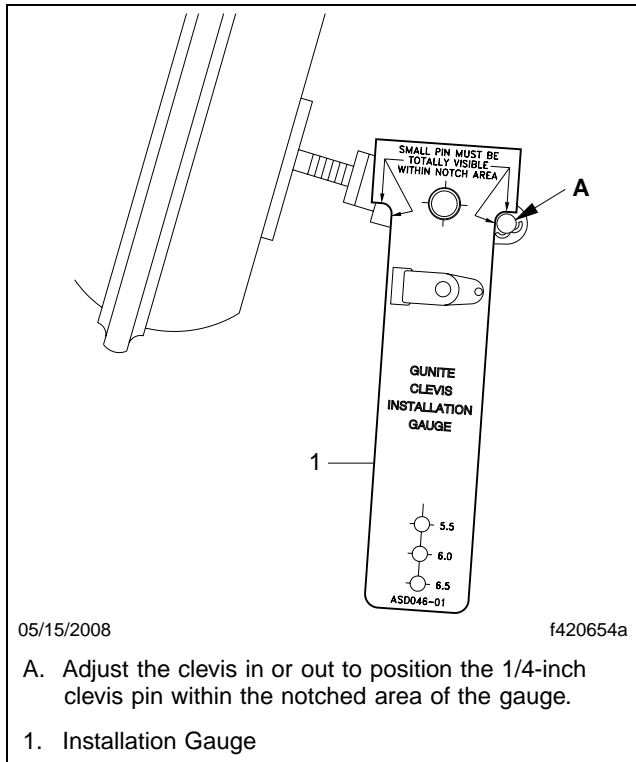

Fig. 4, Checking the Clevis Adjustment
5. If the pushrod has a threaded clevis, use the gauge supplied with the new slack adjuster to check the adjustment of the clevis. See **Fig. 4**.